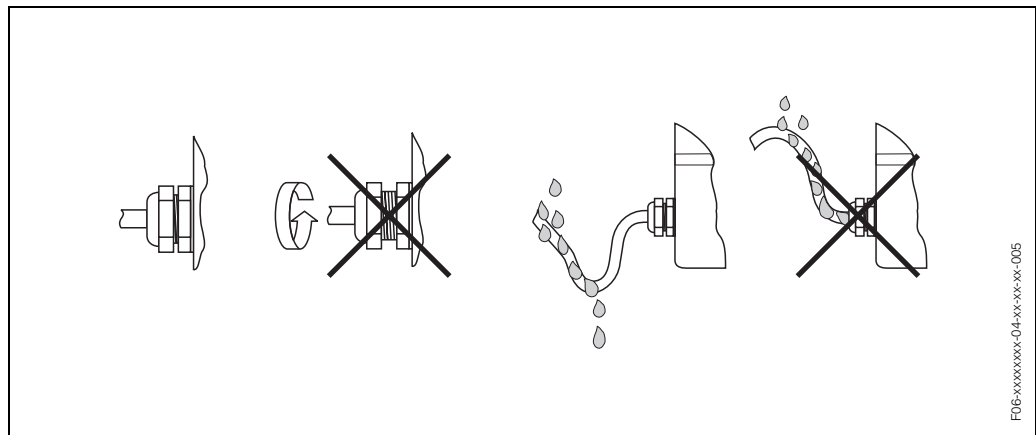

Fig. 38: Installation instructions, cable entries
- Firmly tighten the cable entries (Fig. 38).
- The cables must loop down before they enter the cable entries ("water trap", Fig. 38). This arrangement prevents moisture penetrating the entry. Always install the measuring device in such a way that the cable entries do not point up.